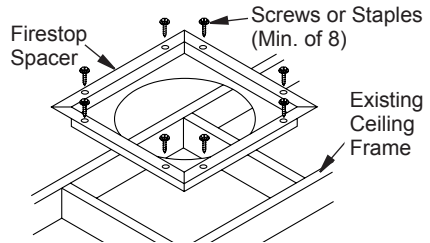

**Figure 12 - Typical Offset Terminations**
3. Maximum length of pipe between supports (return elbow or 12S-12DM) is 6' of angle run. Maximum of two 6' angle run sections per chimney system (see Figure 12, page 10).